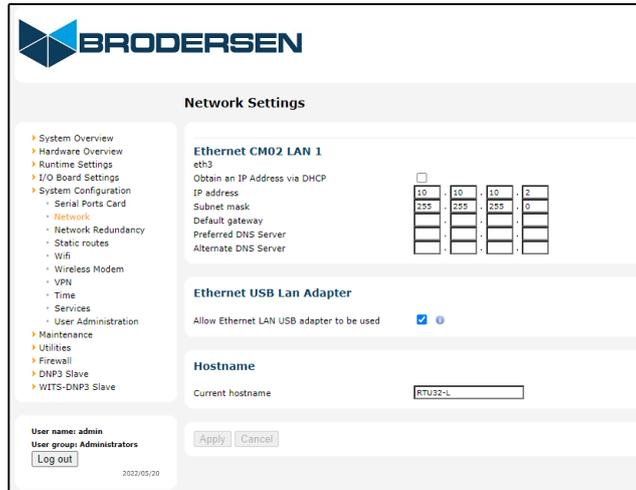

Figure 2
- 7- Set the redundant partner system configuration in "Runtime system\Redundancy Settings\Partners RTU32". See Figure 2.
- 9- Set the redundant partner system configuration in "Runtime system\Redundancy Settings\Partners RTU32". See Figure 2.
11- Set the redundant partner system configuration in “Runtime system\Redundancy Settings\Partners RTU32”. See Figure 2.
14- Set the IP to use redundancy in “System Configuration\Network”. See Figure 2.